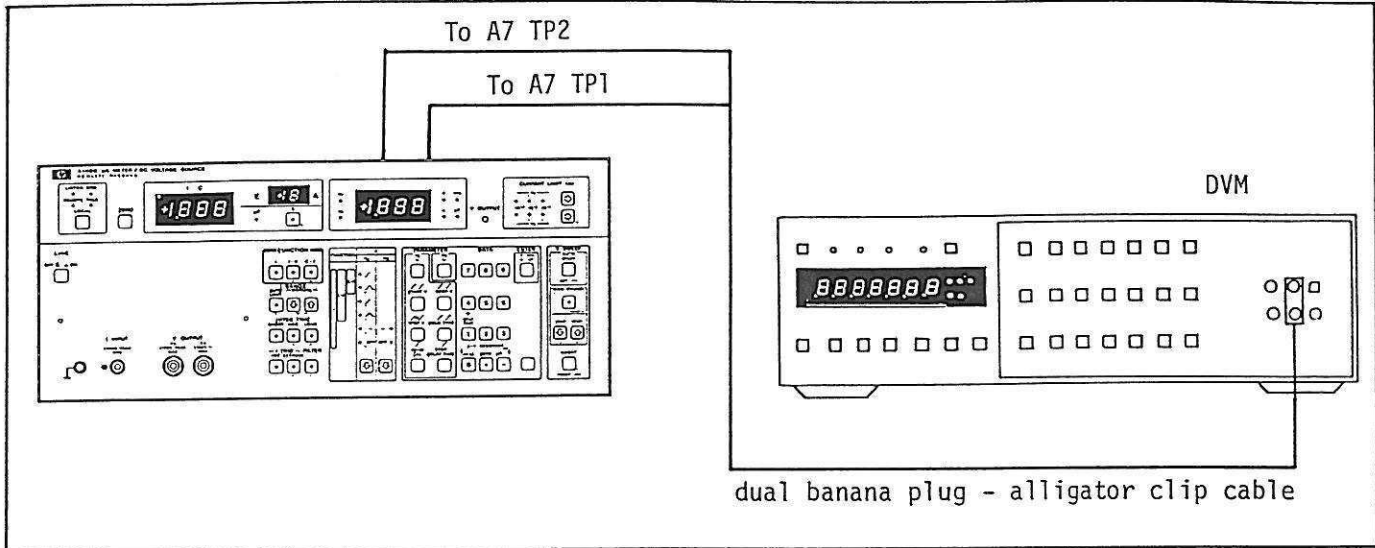

Figure 5-1. Power Supply Voltage Adjustment Setup.
1. Connect the positive input of the DVM to A7TP2 ($-15V$) and the negative input to A7TP1 (F COMM) with the dual banana plug - alligator clip cable. See Figure 5-1.